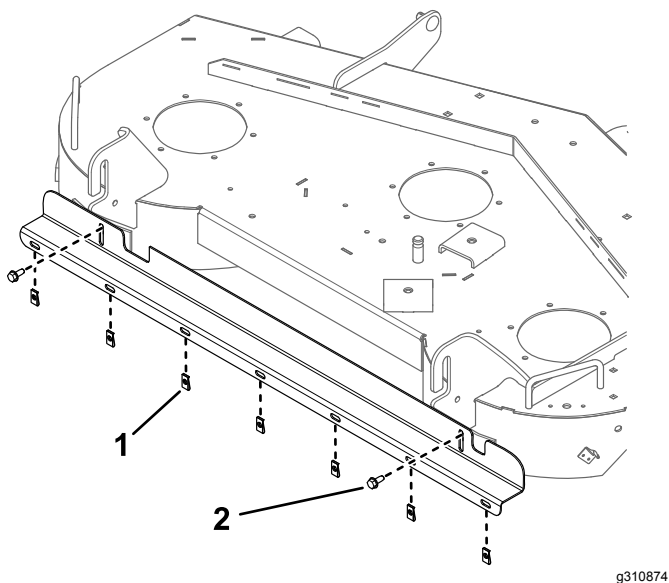

Figure 4
4. Install the bracket to the holes using 2 thread-forming bolts (Figure 4).
5. Install 7 speed nuts to the open holes in the bracket (Figure 4).